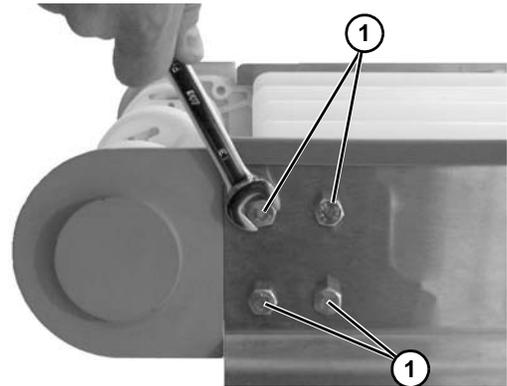

Figure 59
- Remove four head plate bolts (**Figure 59, item 1**). Repeat on opposite side.